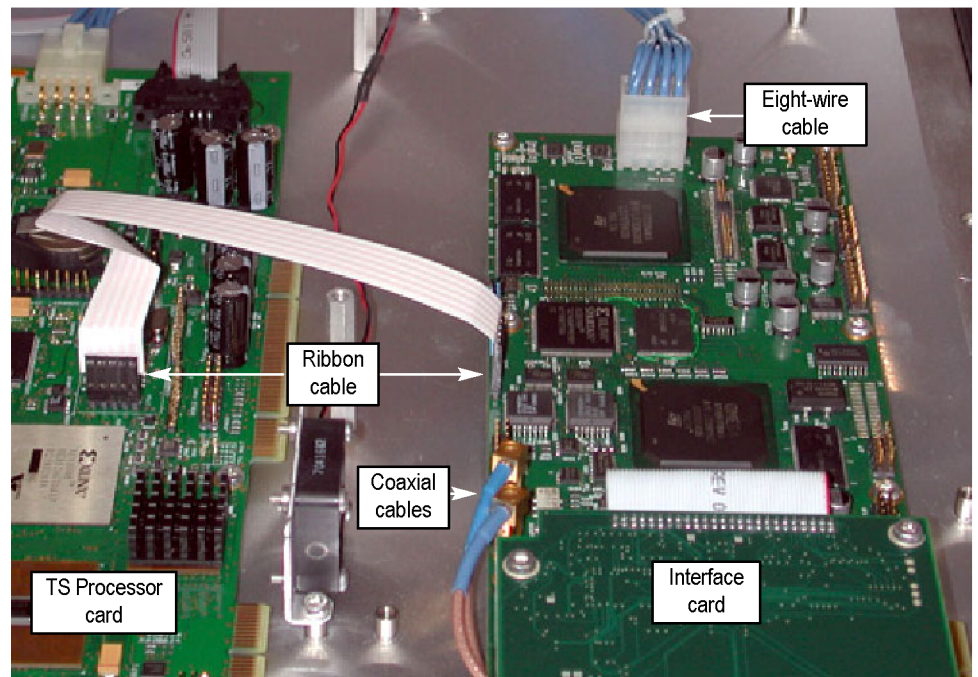

Figure 41: Cable connections for QAM (Annex B2), 8PSK/QPSK, DVB-S2, 8VSB, and COFDM interface cards
- Connect the ribbon cable from the connector labeled J14 on the interface card to the connector labeled J750 on the TS Processor card. (See Figure 41.)